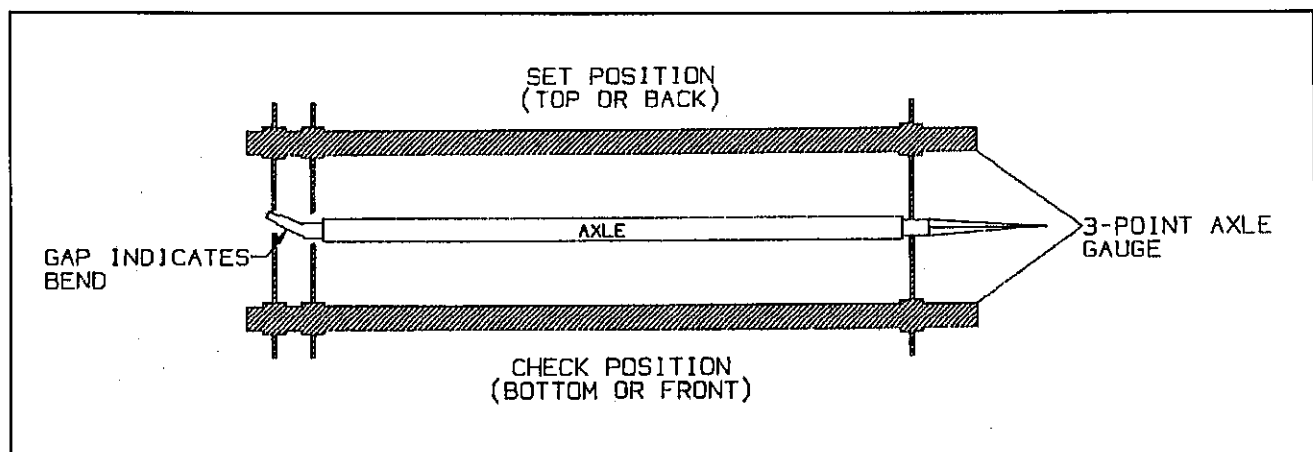

Fig. 4-7 Checking Axle for Bend
b. Place a 3-point axle gauge against the front side of the axle, and adjust each axle gauge point to the axle. (Double point end against the inner and outer wheel bearing surfaces of the spindle being checked and the other point on the inner bearing surface on the other spindle)(see Figure 4-7).
c. Move the axle gauge and place against the back side of the axle. If either of the points of double point end fails to touch the axle surface, a bent spindle is evident. A point gap of .015" or more is considered excessive tire "toe" and the axle must be replaced (see Figure 4-7).